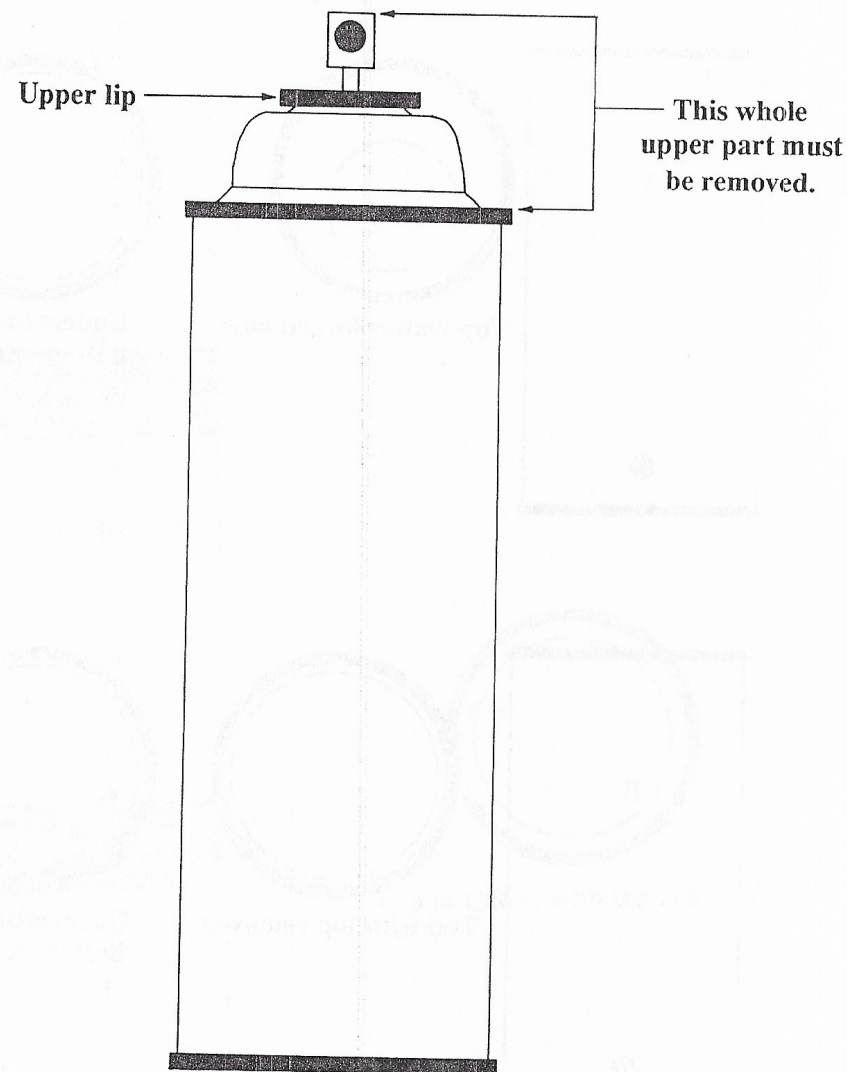

Figure 15
2. For two of the paint cans described in step 1 above, remove the whole top part and remove the lip in the same manner as with Advanced Model I. (See Figure 15.)